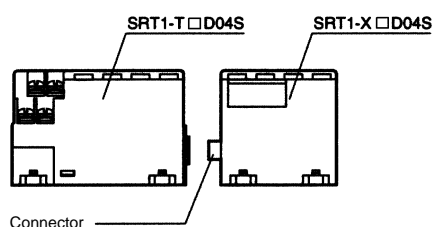

Figure 2
3. Connect this expansion connector to the connector located on the side of the SRT1-X□D04S. (See Figure 2.)